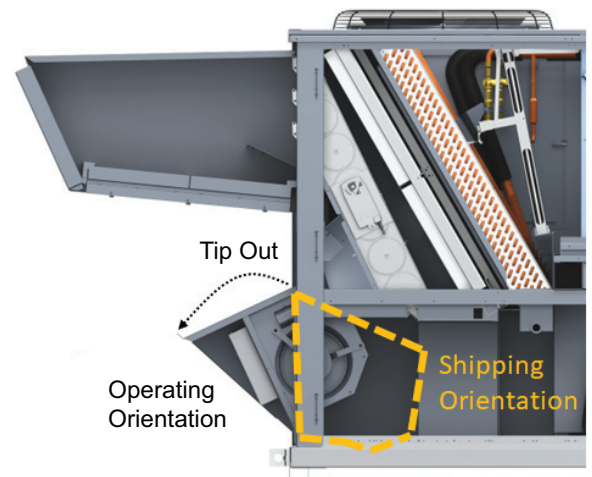
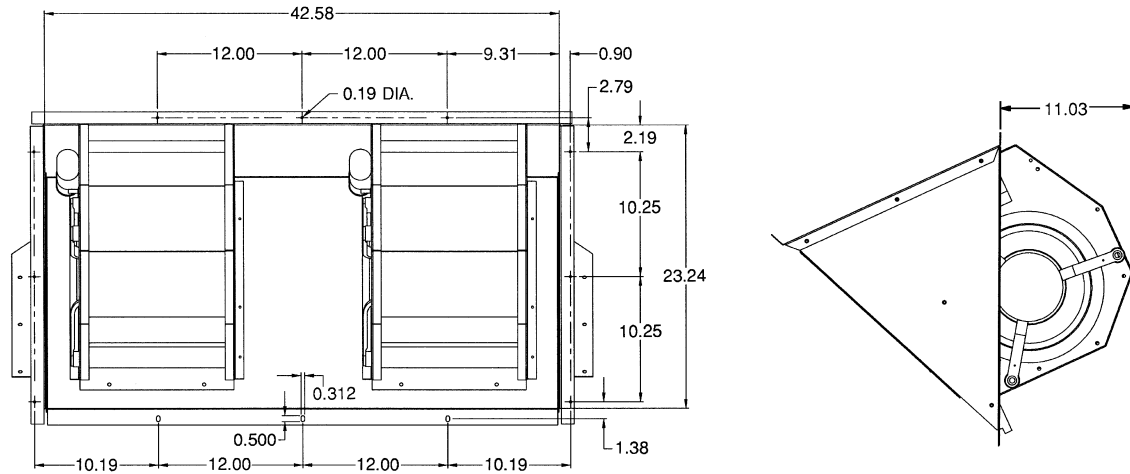

Fig. 34 — Exhaust/Relief Shipping and Operating Locations
Fig. 35 — Exhaust/Relief Details
Unit sizes 20-50 have two relief/exhaust assemblies and unit size 60 has three relief/exhaust assemblies. For units with power exhaust, electrical connections have been made and adjusted at the factory. See Fig. 34 for relief/exhaust shipping and operating orientation and Fig. 35 for operating orientation.
1. Remove 9 screws holding each relief/exhaust assembly in place. See Fig. 34 and 35. Each assembly is secured with 3 screws on each side and 3 screws along the bottom. Save screws.